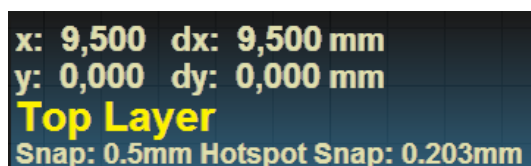

Figure 27. Heads Up Display showing incremental cursor position
- b) and a *dy* value of **0mm** as shown in Figure 27.